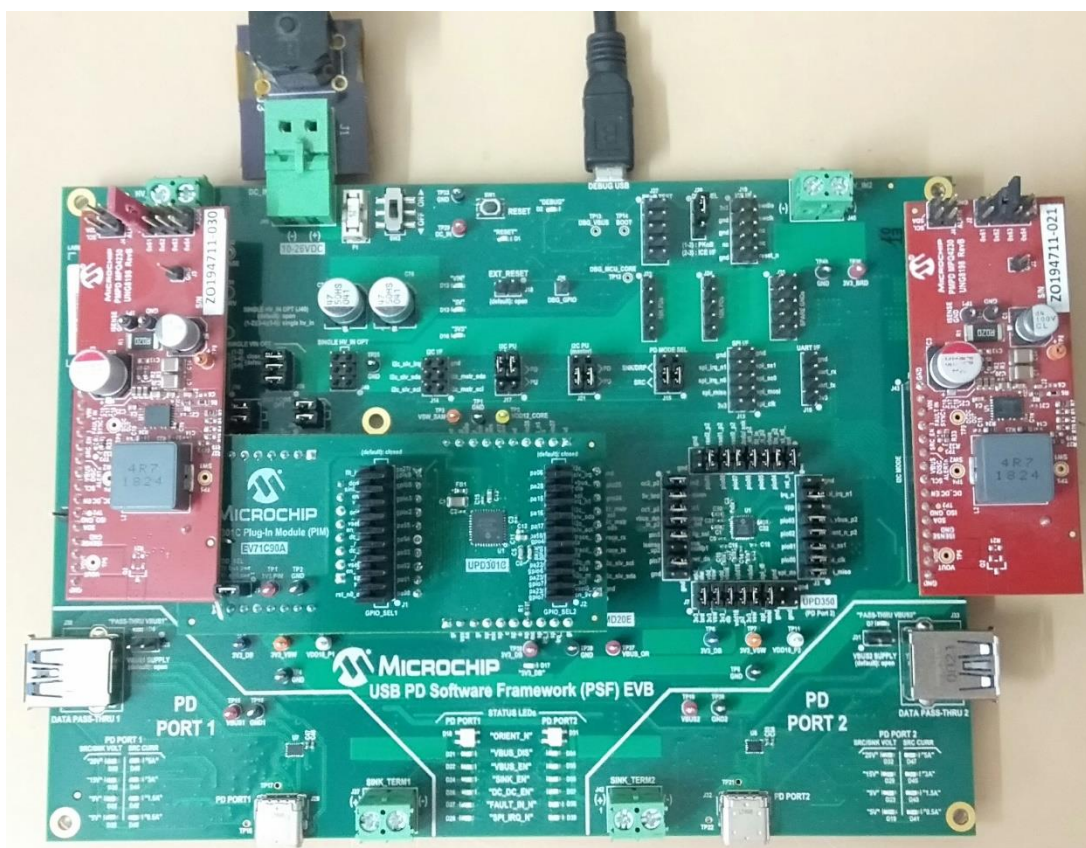

Figure 5.2 PM-PD Orientation
2. Connect PM-PD Modules to J34 and J43 of the EVB-PSF in correct orientation as shown in Figure 5.2